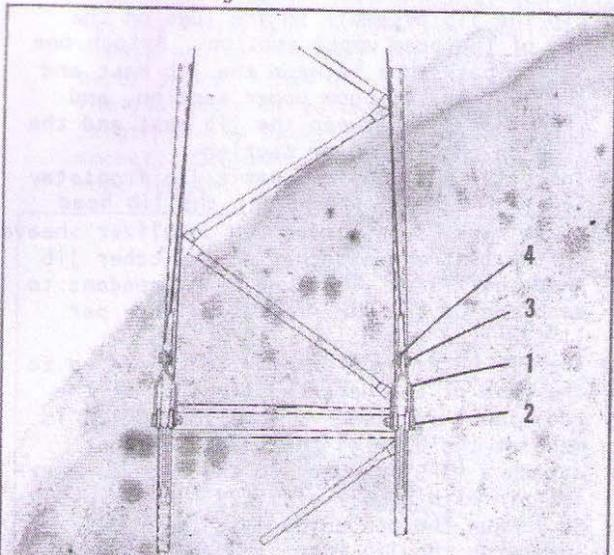

FIG. 13-38
- (1) With equalizer sheaves (Fig. 13-38) a 40'11-3/4" long basic backstay is
- (e) The jib backstay lines may be connected to the base of the upper section, or at the boom lower section. If the connection is made at the base of the upper section, attach a 43'9" pendant to the boom connection pin with a pair of links, (see Fig. 13-38.) Run the pendant around the equalizer sheave on the jib mast, and connect to the other boom connection pin with a pair of links. The 43'9" basic pendant will set the jib inline with the boom. To set the jib at 15° add one 4'4" pendant to the basic pendant. To set the jib at 30° add two 4'4" pendants to the basic pendant.